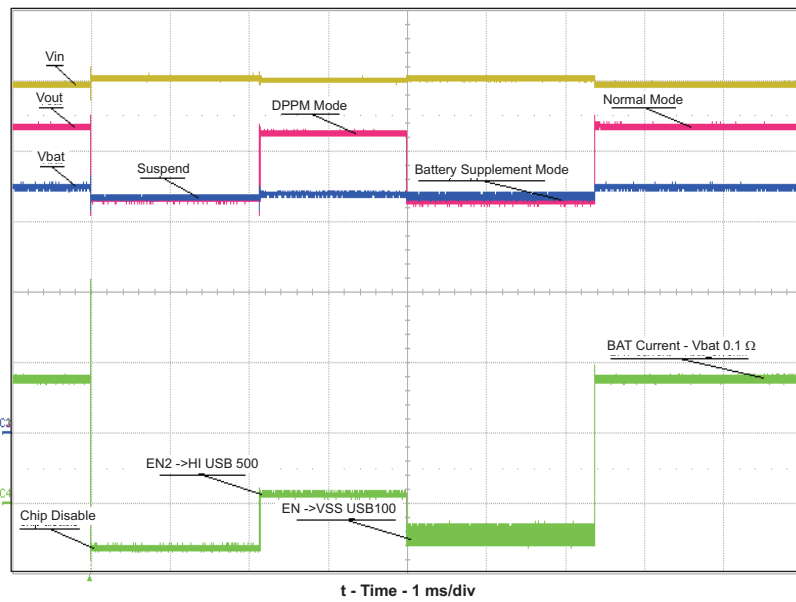

Figure 2. Modes of Operation Tested in Steps 11 Through 13
9. Set JMP5 (EN1) to HI, and verify that the chip is disabled, D1 (CHG) is turned off, and the P/S number 1 current has dropped to 0. The internal battery FET must be on, connecting the BAT pin to the OUT pin. Verify that the voltage on the OUT pin is close to the battery voltage. See Figure 2 for EN1/2 modes of operation.